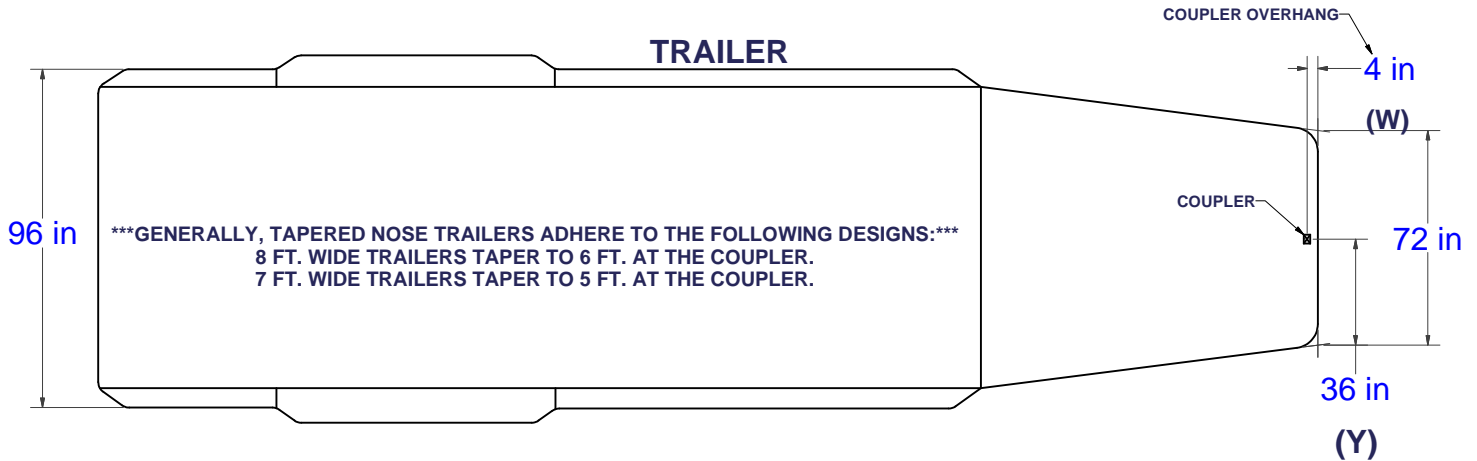

**FIGURE 3**
- 3) Using the U-Bolt and U-Bolt bushing as shown in **Figure 3** (Page 2), secure each side plate to existing holes in the frame rail. Use 1/2" flange nuts to secure in place. Finger tight only.